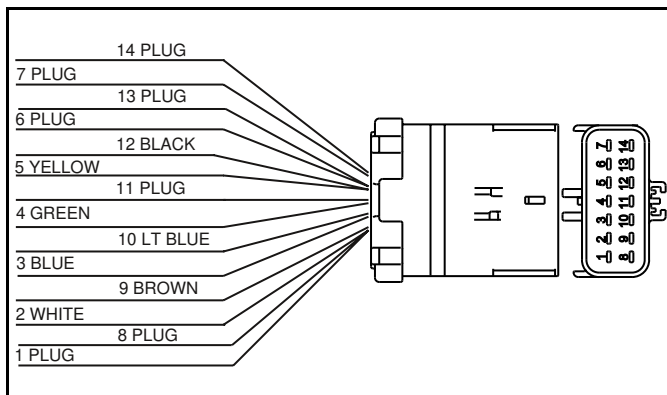

Figure 13
15. Review Figure 13 to make sure the wires are in the correct pin location. Then re-install the secondary lock for the Gray 14 pin connector and place the wires back inside the loom.